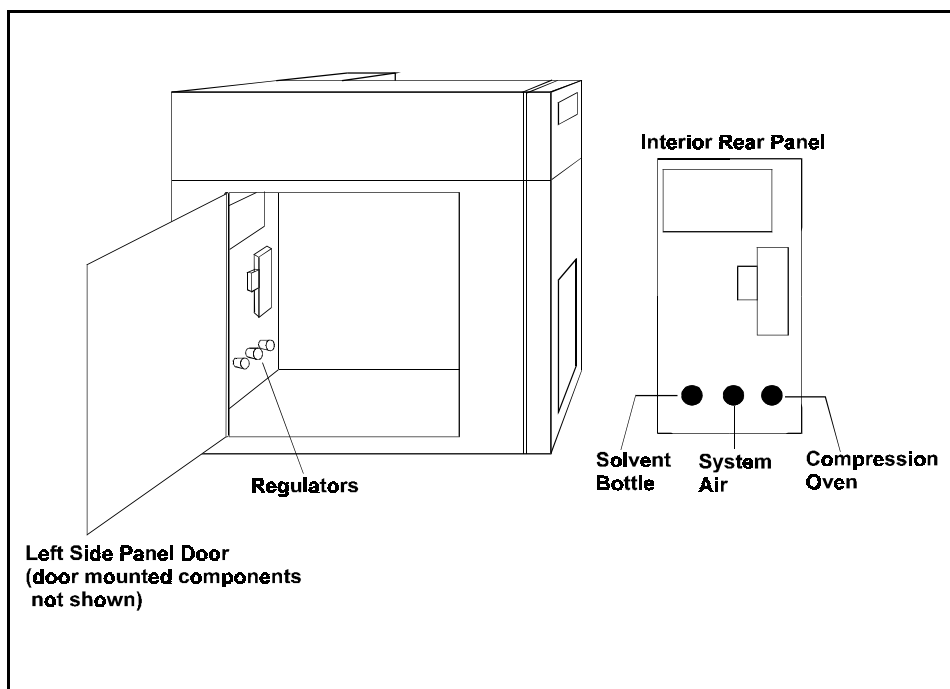

Figure B-5. Location of Regulators
2. If one or more of the pressure readings requires adjustment, open the left-side panel door to gain access to the regulators (see Figure B-5). The three regulator knobs correspond to the three gauges in the solvent reservoir compartment. To adjust a pressure, pull the appropriate regulator knob out, rotate until the corresponding pressure gauge shows the correct reading, and then push the knob back in.